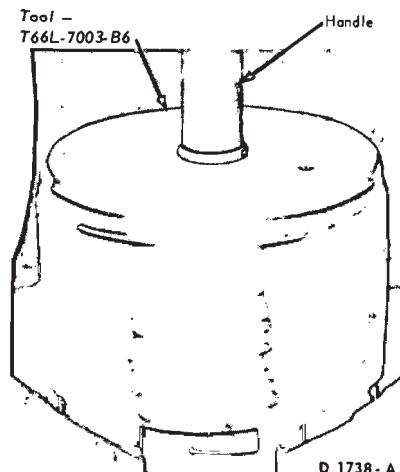

FIG. 92—Installing Low and Reverse Brake Drum Bushing
2. Install a new bushing with the tool shown in Fig. 92.